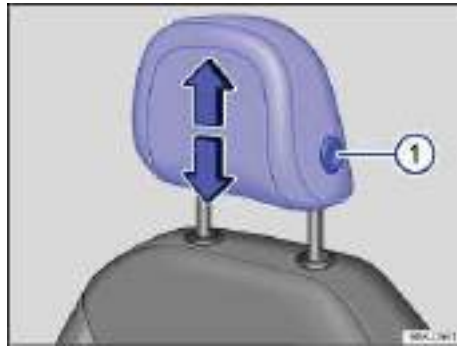
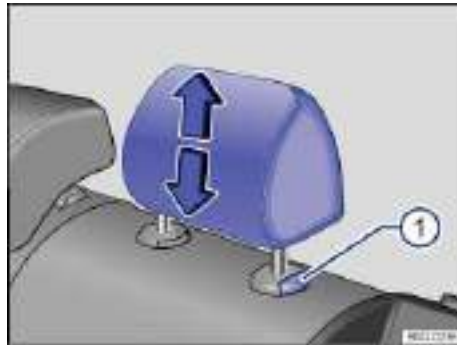

Fig. 39 Adjusting the front head restraints.
Fig. 40 Adjusting the rear head restraints.
- Pull the head restraint up in the direction of the arrow, or push it down while pressing the button ⇒ fig. 39 (1) or ⇒ fig. 40 (1) ⇒ ⚠.